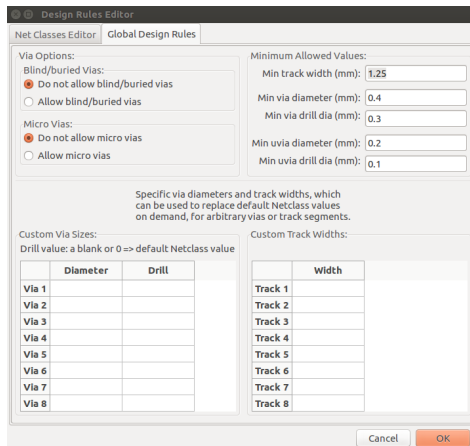

Figure 12.17: Design Rules Editor Window: Global Design Rules
3. Click on **Global Design Rules**, under **Minimum Allowed Values**, locate **Min track width**, erase the default value and enter 1.25 in the data entry field on the right side of it as shown in Fig. 12.17. This will ensure that all tracks placed are of width 1.25mm and that when we perform Design Rules Check, the checks